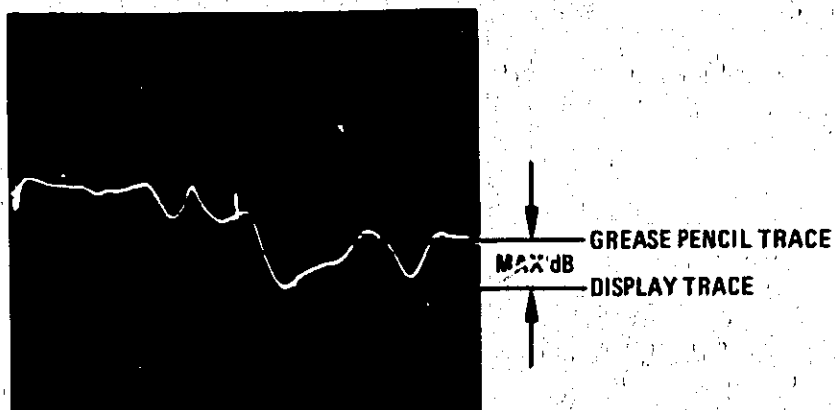

Figure 7. Transmission Frequency Response Magnitude
- (1) Set 8502A RF INPUT ATTENUATION control to zero dB.
- (2) On 8505A Signal Processor Channel 1 press REF OFFSET pushbuttons to center the display around the grease pencil magnitude trace.
- (3) Measure the maximum difference between the grease pencil trace and the display trace (Figure 7). This measured value should be  $\leq 0.8$  dB.